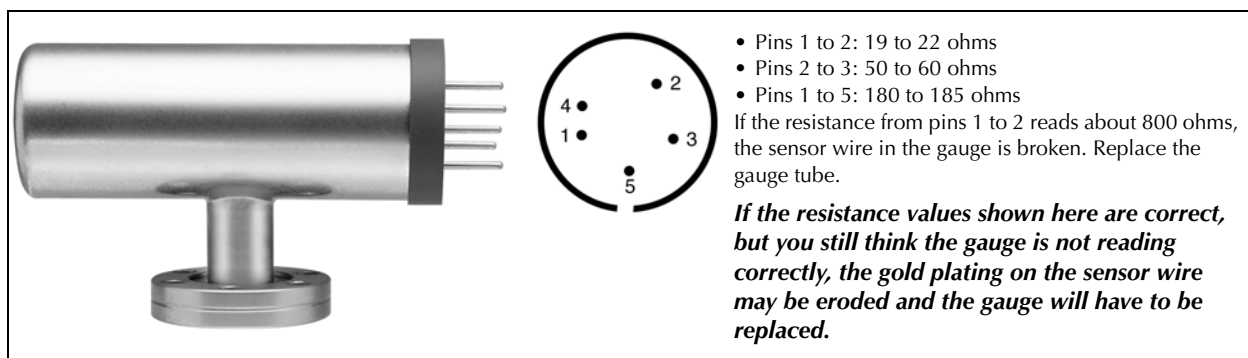

Figure 5-1 Convectron Gauge Connector and Resistance in Ohms
3. Use a *low-voltage (maximum 0.1 V) ohmmeter* to check resistance values across the pins on the gauge. See Figure 5-1.
The gauge should show the resistances values listed in Figure 5-1. Pin numbers are embossed on the blue plastic pin feed-through of the gauge. Measure the resistance across the pins with the gauge at atmospheric pressure, using an ohmmeter that will not apply more than 10 mA.